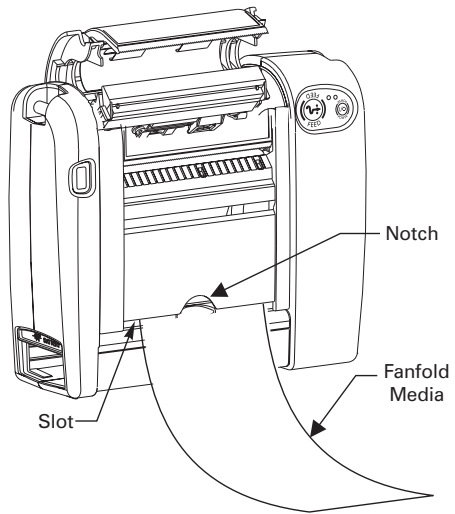

Figure 12
9. Swing up the media access door. Thread the fanfold media through the slot beneath the notch on the media access door (refer to Figure 12).